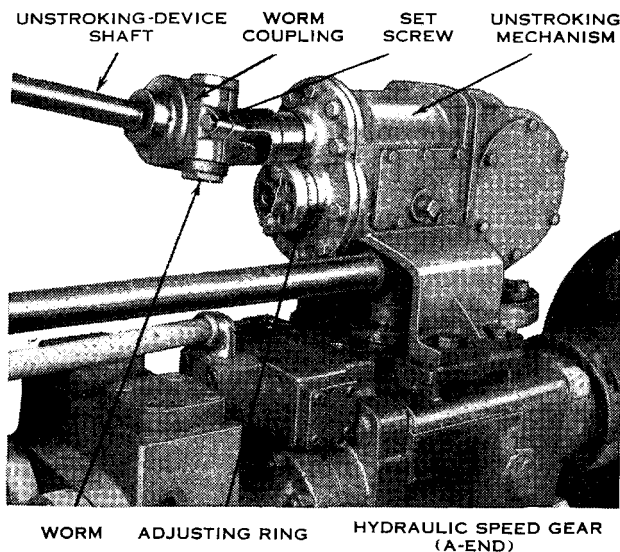

Figure 25. Unstroking mechanism.
d. *To adjust the unstroking device.* (1) To adjust the unstroking device, first check the withdrawal cut-off point to see that it automatically stops the rammer just before the rammer head contacts the stop pins. To do this, run the rammer, under power, part way forward onto the loading trough and then, controlling the speed, *slowly* withdraw it until the unstroking device stops the rearward movement. If adjustment is necessary, loosen the setscrew (fig. 25) on the
(2) Adjustment of the ram cut-off point is made through the adjusting ring (fig. 25) on the rear end of the unstroking mechanism beneath the worm coupling. First, ram a dummy projectile into the chamber of the gun, seeing that it is properly seated. Next, move the rammer head into the chamber until it rests against the base of the projectile. At some convenient point make marks on the rammer chain and rammer trough that coincide. Remove the dummy projectile and make a mark on the rammer loading trough 10 inches forward of the first mark. With power, *slowly* move the rammer head into the gun until the unstroking device stops the forward movement. If the mark on the chain does not come within an inch of the second mark made on the loading trough, the unstroking device must be adjusted as follows: